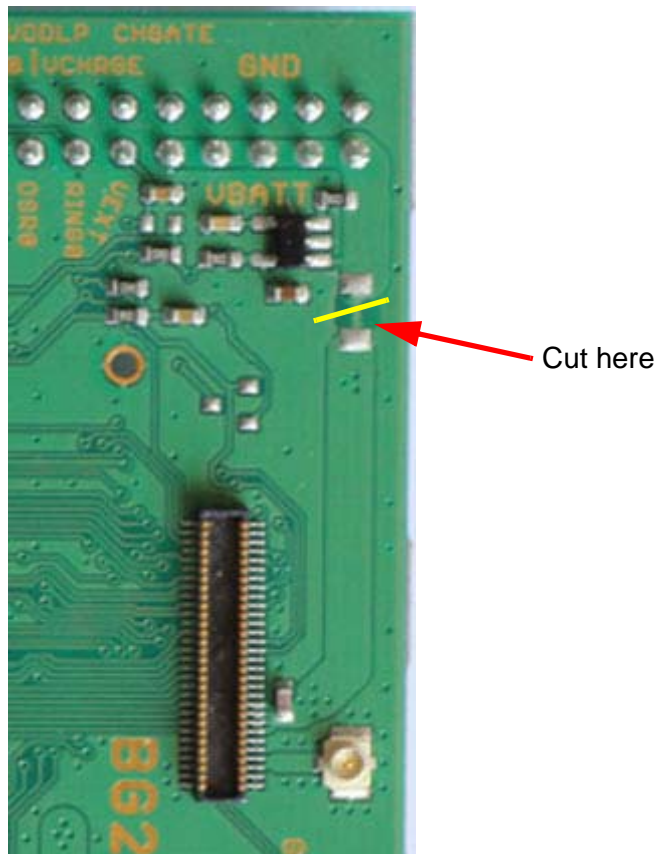

Figure 5: Measuring supply current
- Cut the supply wire on the Multi-Adapter R1 as shown in Figure 5 and instead solder a 100mOhm 0805 resistor onto the pads connected by this wire. Now, the board is prepared to measure currents (100 $\mu$ V per 1mA) across this resistor.